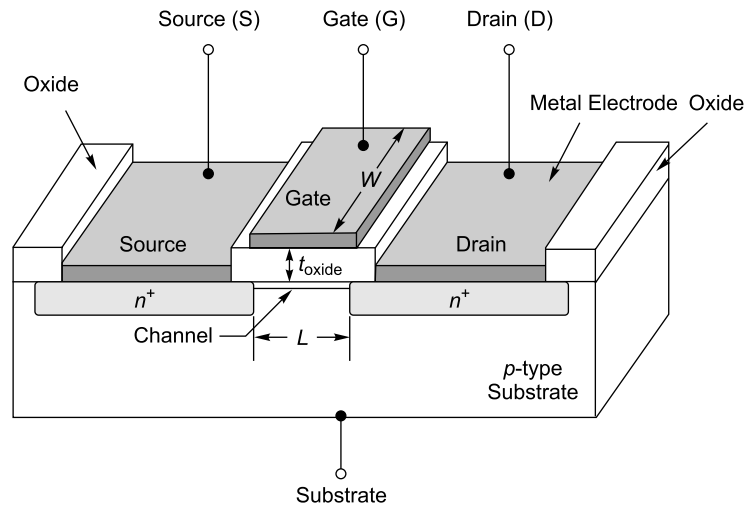
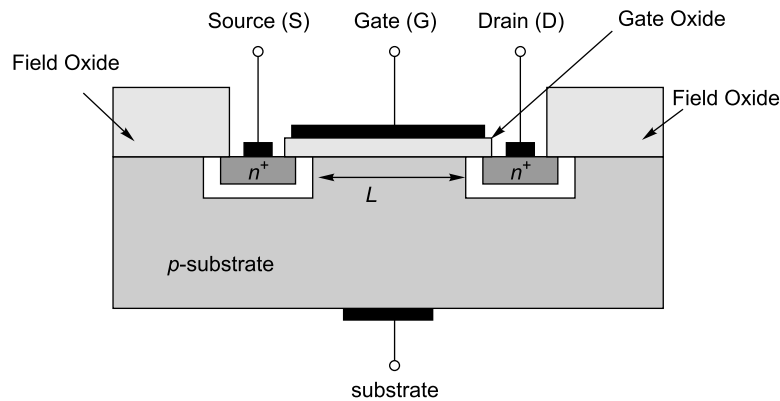

Fig. 1.35 Schematic diagram of an *n*-channel enhancement type MOSFET
Fig. 1.36 An *n*-channel MOSFET showing field oxide and gate oxide
Figure 1.35 shows the simplified structure of an n -channel enhancement-type MOSFET which consists of a lightly doped p -type substrate and two n^+ regions. Actually, two highly doped n^+ regions are diffused within the p -type substrate. These n^+ type regions are separated by about $1\ \mu\text{m}$ to $20\ \mu\text{m}$ and act as source (S) and drain (D) terminal, respectively. A thin layer of silicon dioxide, SiO_2 is placed over the surface of the structure. Then holes are cut into the SiO_2 layer and metal contacts are inserted into holes to make the source and drain terminals as shown in Fig. 1.35. The metal contact over the channel region is used as gate terminal. The gate, oxide and p -type substrate behave as a MOS capacitor. In Fig. 1.35, L is the channel length and its typical value is about $1\ \mu\text{m}$ to $20\ \mu\text{m}$. The thickness of oxide t_{oxide} is in the order of 400 angstroms. Figure 1.36 shows the detail cross section of an n -channel MOSFET showing field oxide and gate oxide.